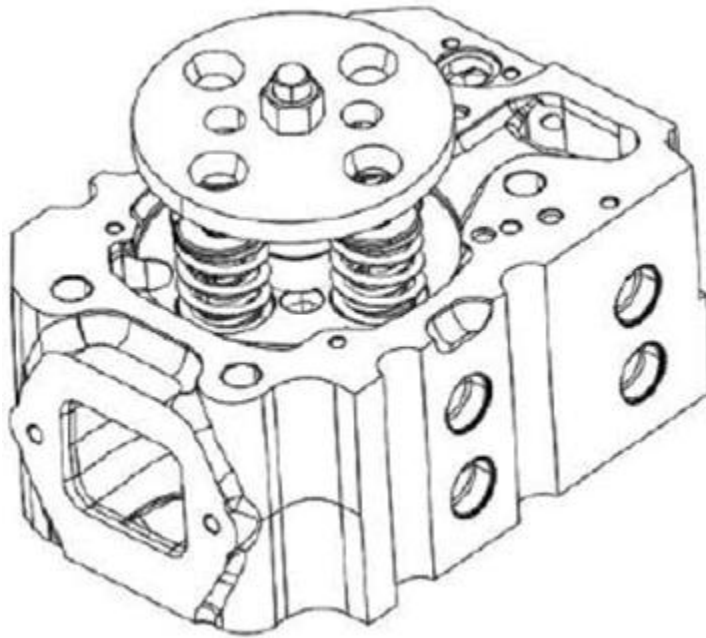

Figure 47. Valve Spring Compressor Assembly
- 5. Lift all cylinder heads away from the cylinder block (Figure 47, Item 8). Discard all cylinder head gaskets (Figure 47, Item 9).
8. Using a valve spring compressor tool, compress the valve springs (Figure 47).